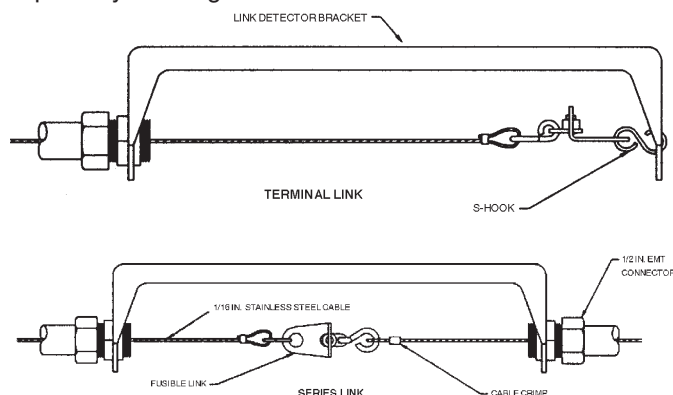

FIGURE 12
The Model FLK-1 fusible link kit includes a 10 in. (25.4 cm) steel bracket, two (2) 1/2 in. EMT connectors, two (2) cable crimps, and two (2) "S" hooks. Fusible links must be ordered separately. See Figure 12.